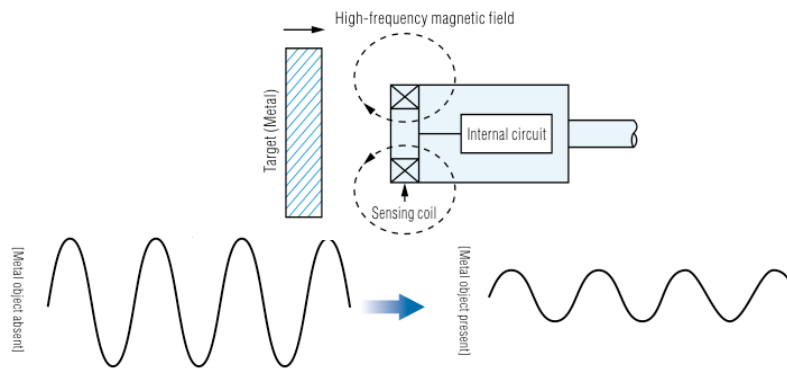

Fig.18 Eddy-current proximity sensors.
1. Outline of eddy-current proximity sensors (Fig.18)